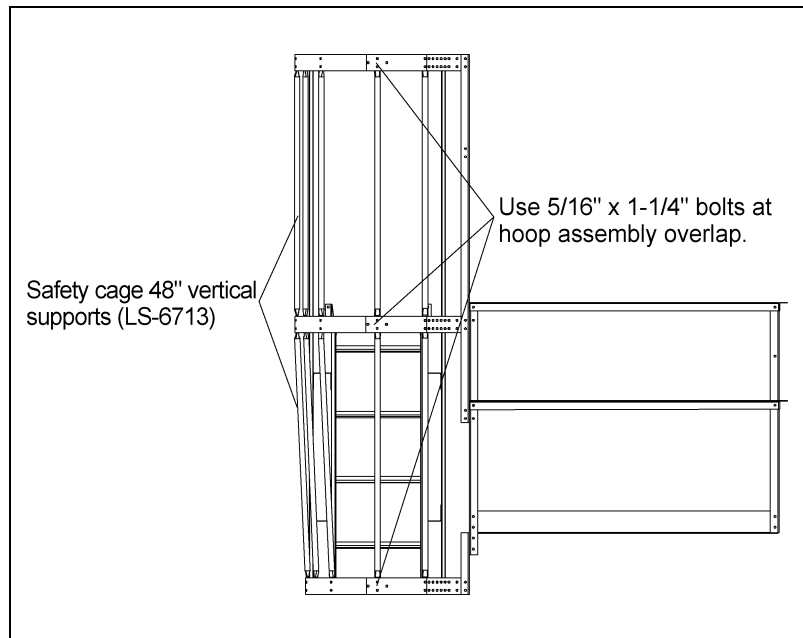

Figure 60 Vertical Supports
After all three (3) hoop assemblies are in place, attach the 48" vertical supports from hoop assembly to hoop assembly, as shown in Figure 60. This requires ten (10) supports, five (5) between each set of hoops. The second set of vertical supports must be bent at the flat area to allow for the tapering of the bottom hoop assembly. Use 5/16" x 3/4" bolts (unless otherwise noted) with the head of the bolt to the inside of the safety cage.